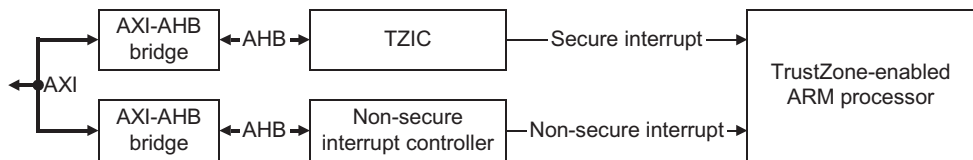

Figure 1-1 TZIC overview
The TZIC provides a software interface to the secure interrupt system in a TrustZone design. It provides secure control of the **nFIQ** interrupt and masks the interrupt source(s) from the interrupt controller on the non-secure side of the system. You can then use the latter to generate the **nIRQ** signal. This can be a simple or vectored design. Figure 1-1 shows the TZIC a typical configuration.
- You must use this device with an AXI-AHB bridge as shown in Figure 1-1. AXI supports TrustZone and this bridge reads the secure bit and provides the correct response. The AHB interface in the TZIC does not have to handle the secure bit. The 4KB block in which the TZIC registers reside must be in a secure area of memory.